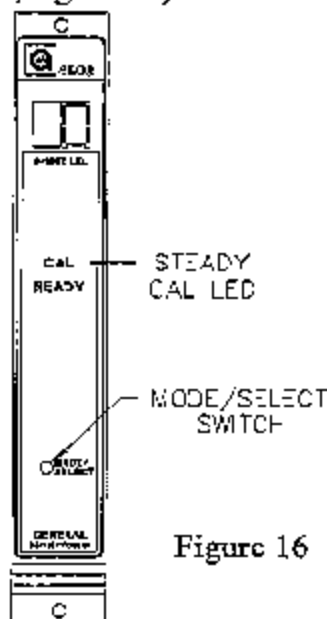

Figure 16
- Enter the Calibration mode by following the procedure for entering the Calibration Check mode, continuing to press and hold the Mode/Select switch until the **CAL** LED turns on steady (about fifteen seconds, figure 16).